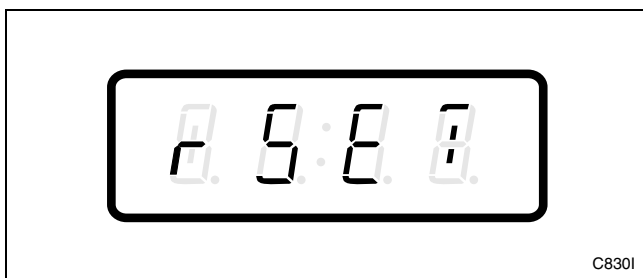

Figure 204
2. Press the DELICATES (+) or the COLD (-) keypad until "rSET" appears. Refer to *Figure 204*.